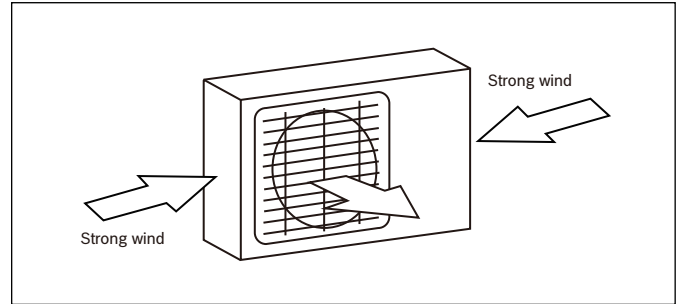

Figure 43
- ▶ If the unit is exposed to heavy wind: Install unit so that air outlet fan is at a 90° angle to the direction of the wind. If needed, build a barrier in front of the unit to protect it from extremely heavy winds. See Figures 43 and 44.